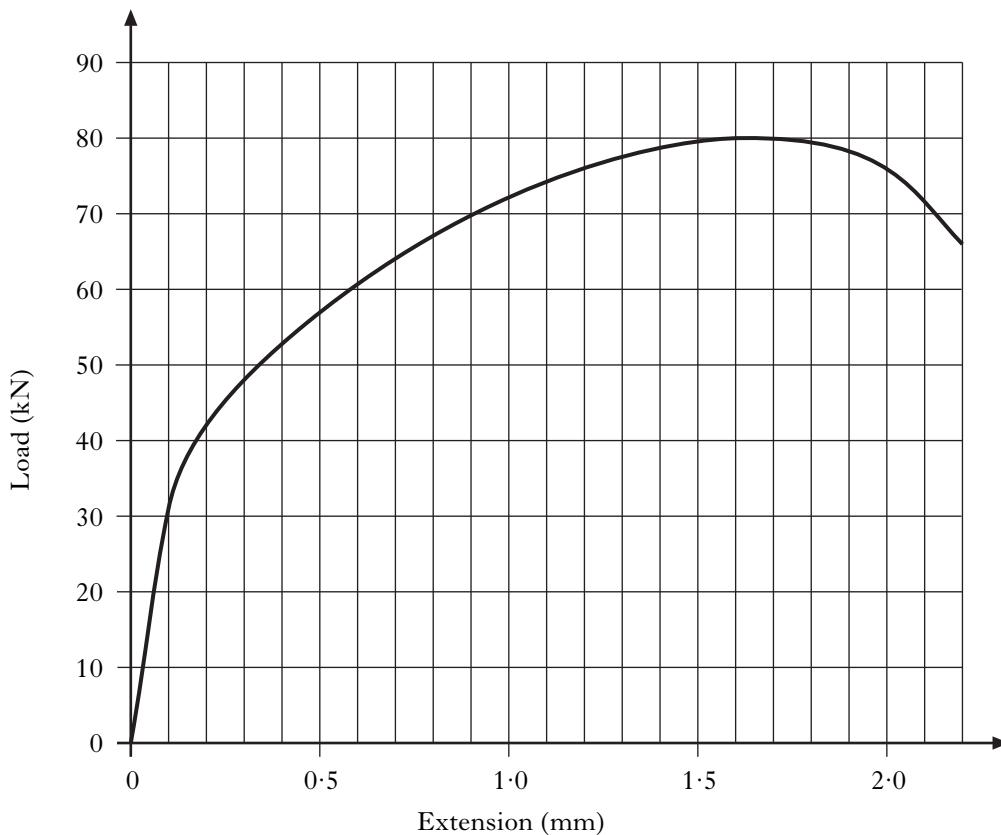

Figure Q4
4. Figure Q4 shows a load-extension graph for a tensile test on a sample of a special type of steel.